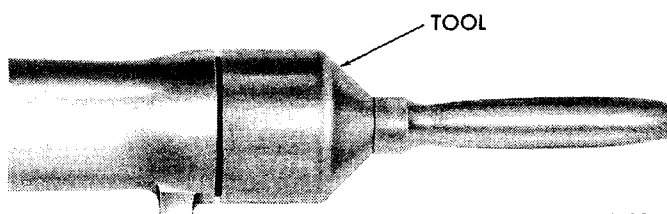

Fig. 11—Installing Extension Housing Yoke Seal
(3) Drive a new oil seal into housing with Tool C-3995 (Fig. 11).
(4) To install a new seal, position seal in opening of extension housing and drive it into housing with Tool C-3995 (Fig. 11).
(5) Carefully guide front universal joint yoke into extension housing and on the mainshaft splines. Align